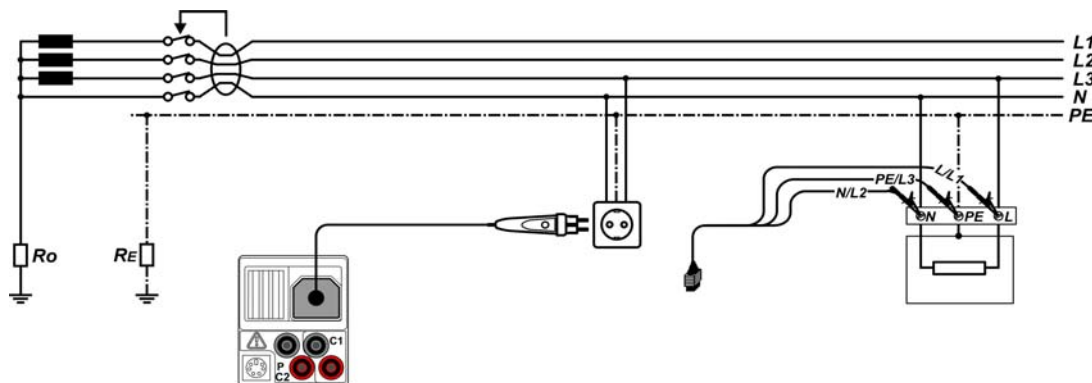

Figure 5.17: Connecting the plug commander and the 3-wire test lead
- ❑ **Connect** test leads to the item to be tested (see *figure 5.17*).
- ❑ **Connect** test leads to the item to be tested (see figure 5.17).
<ul style="list-style-type: none"> <input type="checkbox"/> Select the RCD function using the function selector keys. <input type="checkbox"/> Set sub-function AUTO. <input type="checkbox"/> Set test parameters (if necessary). <input type="checkbox"/> Connect test cable to the instrument. <input type="checkbox"/> Connect test leads to the item to be tested (see figure 5.17). <input type="checkbox"/> Press the TEST key to perform the test. 	Start of test